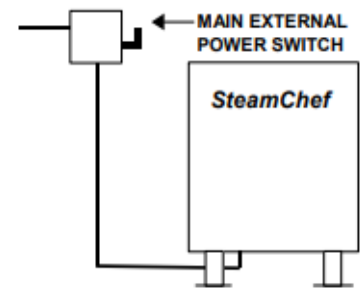

Figure 5-1
3. Refer to Figure 5-1 and turn on electric power to the SteamChef at the Main External Power Switch.